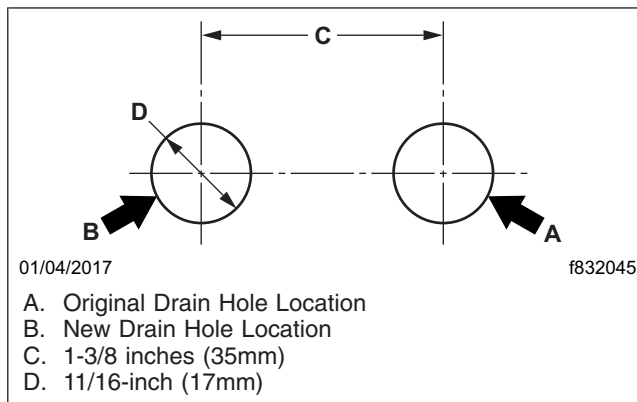

Fig. 4, New Frontwall Hole Location
9. Mark a spot 1-3/8 inches (35mm) inboard of the existing drain hole in the frontwall. See Fig. 4.